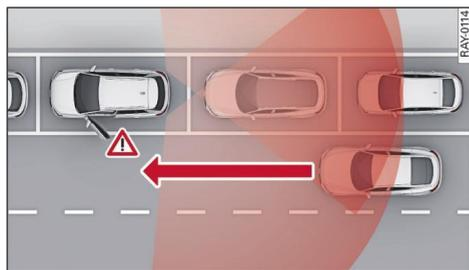

Fig. 87 Detected traffic approaching from behind
The exit warning system can recognise other road users approaching from behind (within certain system limitations) and warn you as you get out of the vehicle ⇒ Fig. 87. The system uses the data from the radar sensors at the rear corners of the vehicle.
- The area covered by the sensors ⇒ Fig. 87 is an example and does not represent the range of the sensors to scale.